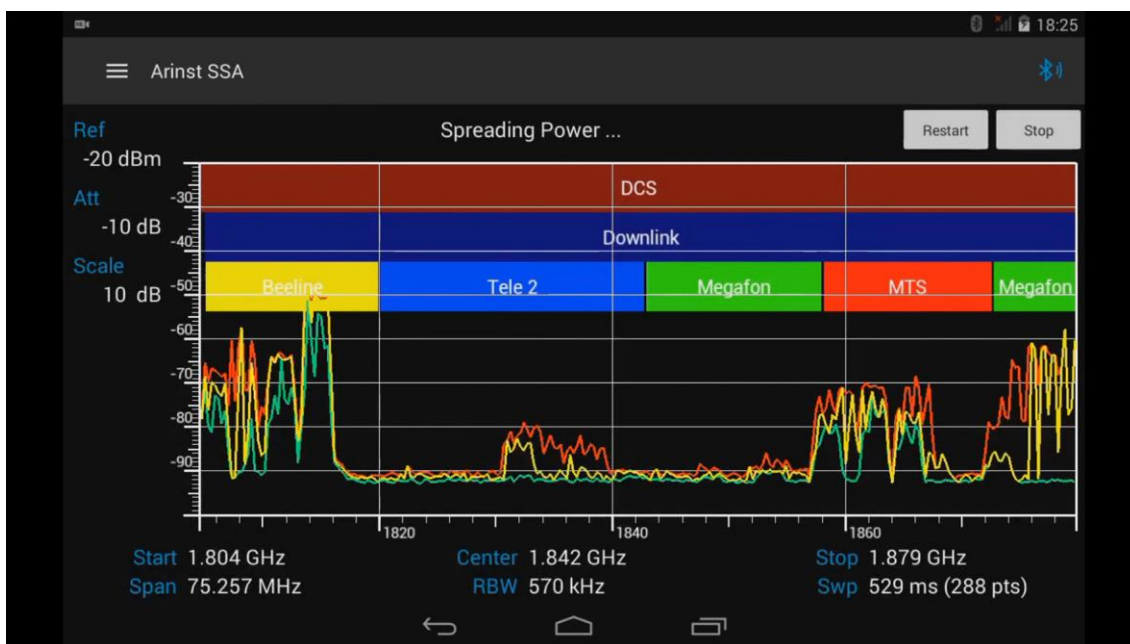

Figure 61 – Display of the maximum and minimum graph of averaged measurements
8.9.10. Figure 61 shows the operation in the display mode of the maximum and minimum measurement result. The red graph shows the maximum averaged measurement result. The minimum averaged measurement result is displayed in green graph. To restart the scan, click the **Restart** button, to stop the scan, click the **Stop** button in the upper right corner of the tablet / smartphone screen.